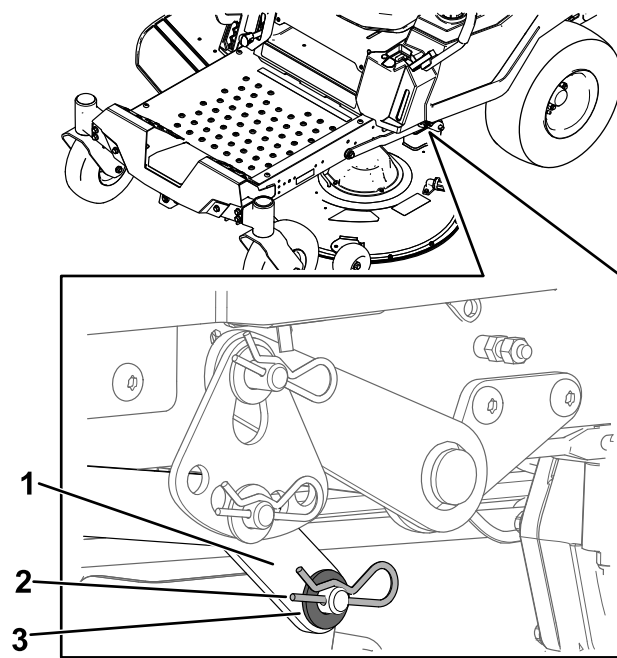

**Figure 64**
- Remove the hairpin cotter from the front support rod, and remove the rod from the deck bracket (Figure 64).
8. Attach the front support rod to the mower deck with the clevis pin and hairpin cotter (Figure 64).